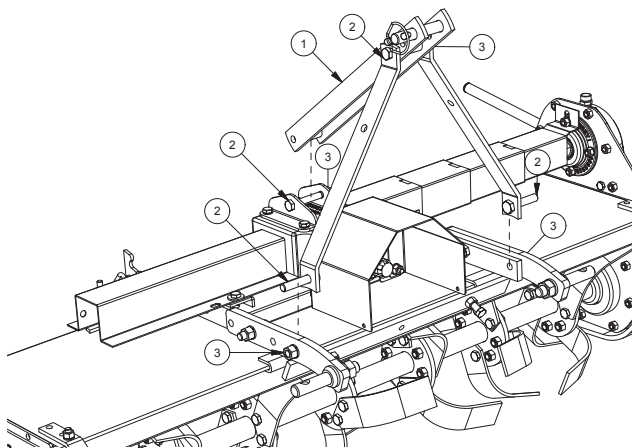

FIG. 6
- Fit the third point (1, Fig. 6), insert it inside between the frame supports; tighten bolts (2) and nuts (3) at the recommended torque (see table “Bolt driving torque (Nm)” on page 42)